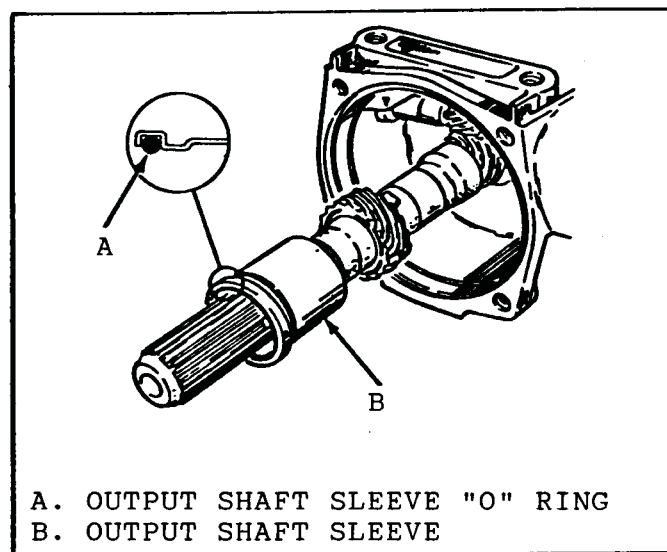

Figure 124
3. Install "O" ring in the output shaft sleeve (See Figure 124).